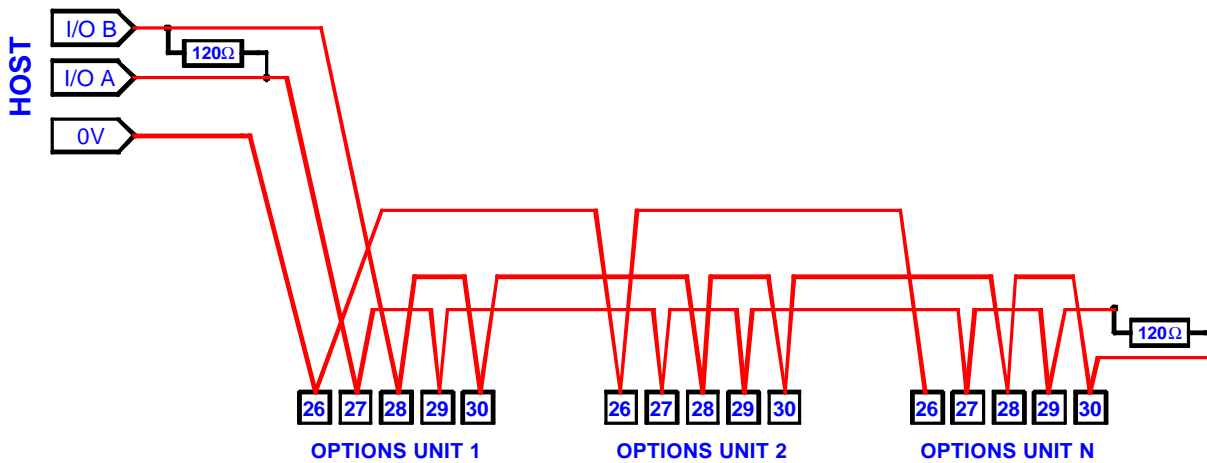

Figure 5.4 RS485 Multi-Drop Connection
It is recommended that screened twisted-pair cable be used for RS485 connection in order to minimise signal errors due to noise. An optional third wire, connecting the common (0V) at each unit, is recommended for optimum performance. The cable screen should be connected to the connector housing (ground) at the host (PC) only. To reduce cable reflections over long distances, RS422/485 systems require line termination. This is achieved by fitting two 120Ω terminating resistors as shown in Figure 5.4. One resistor should be fitted at the Host input/output buffer and the other at the buffer of the most remote device.